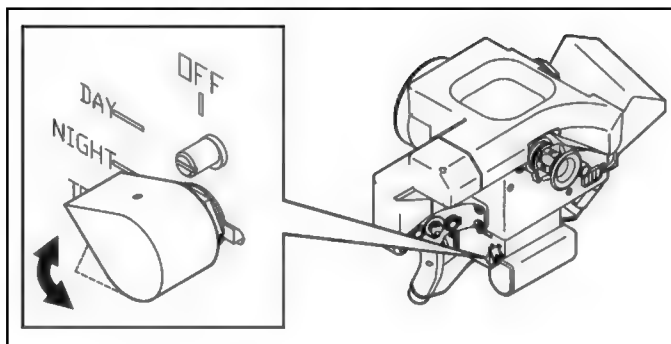

Figure 2-3. Power switch—TEST position.
(4) **TEST Position.** The Javelin enters a built-in test (BIT) routine (Figure 2-3) when the power switch in the TEST position. The power switch is spring-loaded when in the test position. When the gunner moves the power switch to the TEST position, it then returns to the NIGHT position upon release.